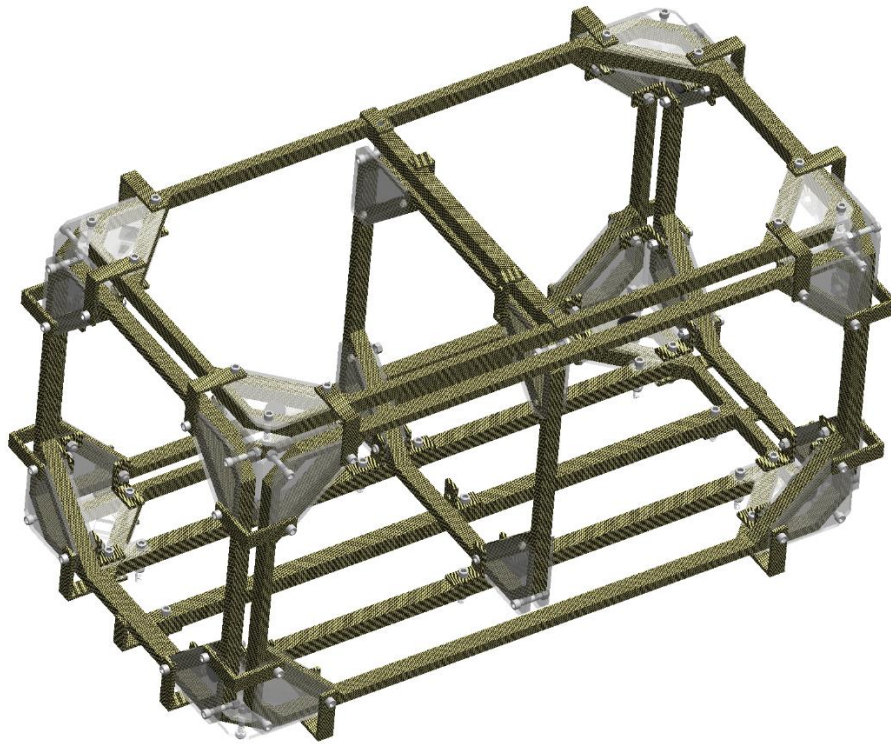

Figure 1.15
17. Line up two Top Middle Brackets (PN THOA005) so the holes match up with the two top unbolted holes in the Middle Coil (ASMB003) as shown in Figure 1.15. The two Top Middle Brackets should mirror each other across the Middle Coil. Epoxy the Top Middle Bracket to the Top Beam (PN THOA003) as shown. Epoxy the Top Middle Bracket to the Top Beam. **DO NOT epoxy the Top middle Bracket to the Middle Coil.** Note: while the upper face of the Top Middle bracket will be flush to the top of the Top Beam, the side of the Top Middle Bracket will not be flush to the side of the Top Beam—shim as necessary. Bolt the Top Middle Brackets to the Middle Coil using two 2.5" 3/8-16 bolts (PN OUTS003), and two 3/8-16 nuts (PN OUTS004).